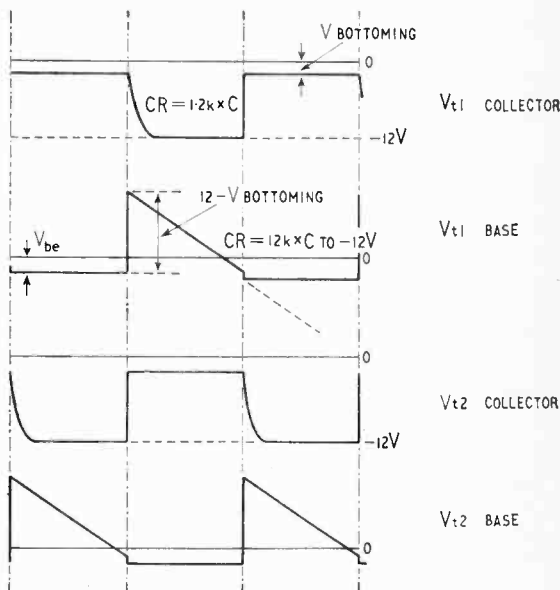

Fig. 3. Waveform diagrams of the collectors and bases of transistors Vt1 and Vt2.
**Multivibrator Vt1 & Vt2:**—These transistors form a conventional cross-coupled multivibrator with CR timing in the base circuits. An output impedance of  $1.2$  k $\Omega$  is adequately low to drive the succeeding switch stage "ON." In order to cut off the switch the multivibrator transistors must bottom when "ON." Hence the base resistors must be no greater than  $1.2$  k $\Omega \times \beta$  minimum— $12$  k $\Omega$  will ensure heavy bottoming. Although only short-term frequency stability is required of the multivibrator, the timing mechanism merits some examination. From the waveform diagrams (Fig. 3) it will be seen that at the switching instant, the collector potential of the previously off transistor changes rapidly from  $-12$  V to approximately zero (bottoming potential). Hence the base of the previously on transistor is driven positive by  $12$  V to  $+12$  V approximately. This transistor is cut off while the timing capacitor recharges through the  $12$  k $\Omega$  base resistor the aiming potential being  $-12$  V. However, when the base reaches a potential slightly negative with respect to the zero rail the off transistor conducts and completes the half cycle. Similar action ensues with the other transistor to complete the full cycle.